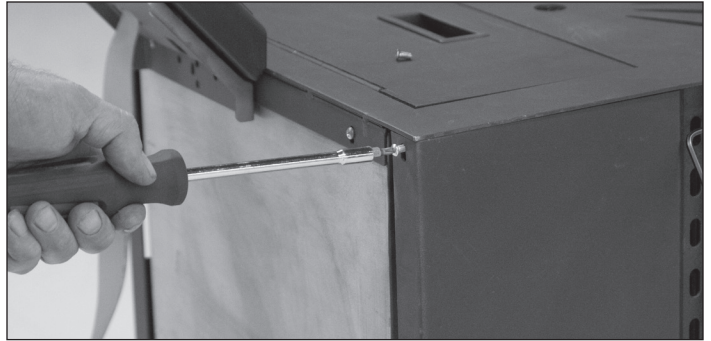

Figure 37: Remove Phillips screws at rear of side panel at the top and bottom of the panel
- Remove two phillips screws located at the rear of the panel, one at the top and one at the bottom of the panel. **SEE FIGURE 37.**